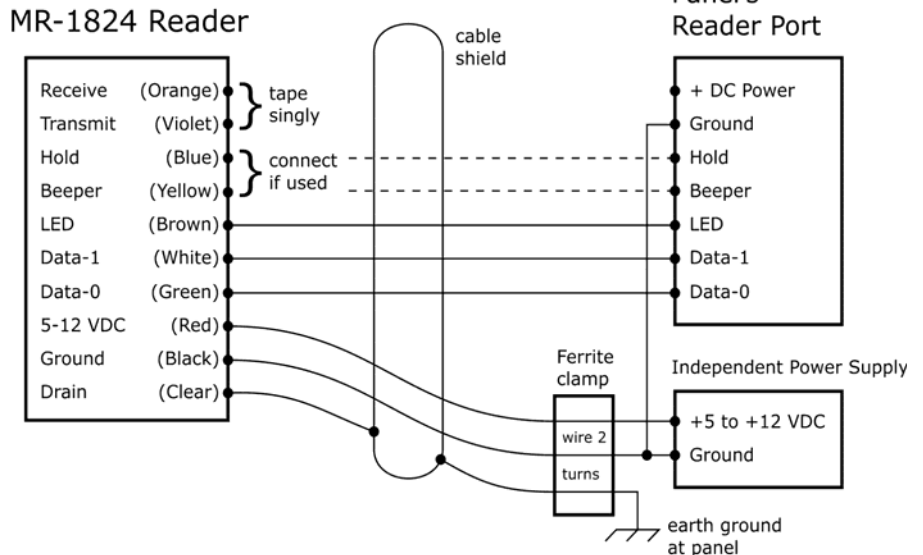

FIGURE 2. Wiring Diagram (Wiegand)
3. Connect the reader's cable to the controller panel as shown in Figure 2. Connect the **yellow** wire only if used for Beeper control by the panel. Connect the **blue** wire only if used for Hold control by the panel. **Do not connect the orange and violet wires to anything. Tape or cap all unused wires singly.**
(b) Number of conductors depends upon use of optional features – LED, Beeper and Hold. See Figure 2.
3. Connect the reader's cable to the controller panel as shown in Figure 2 on page 2.